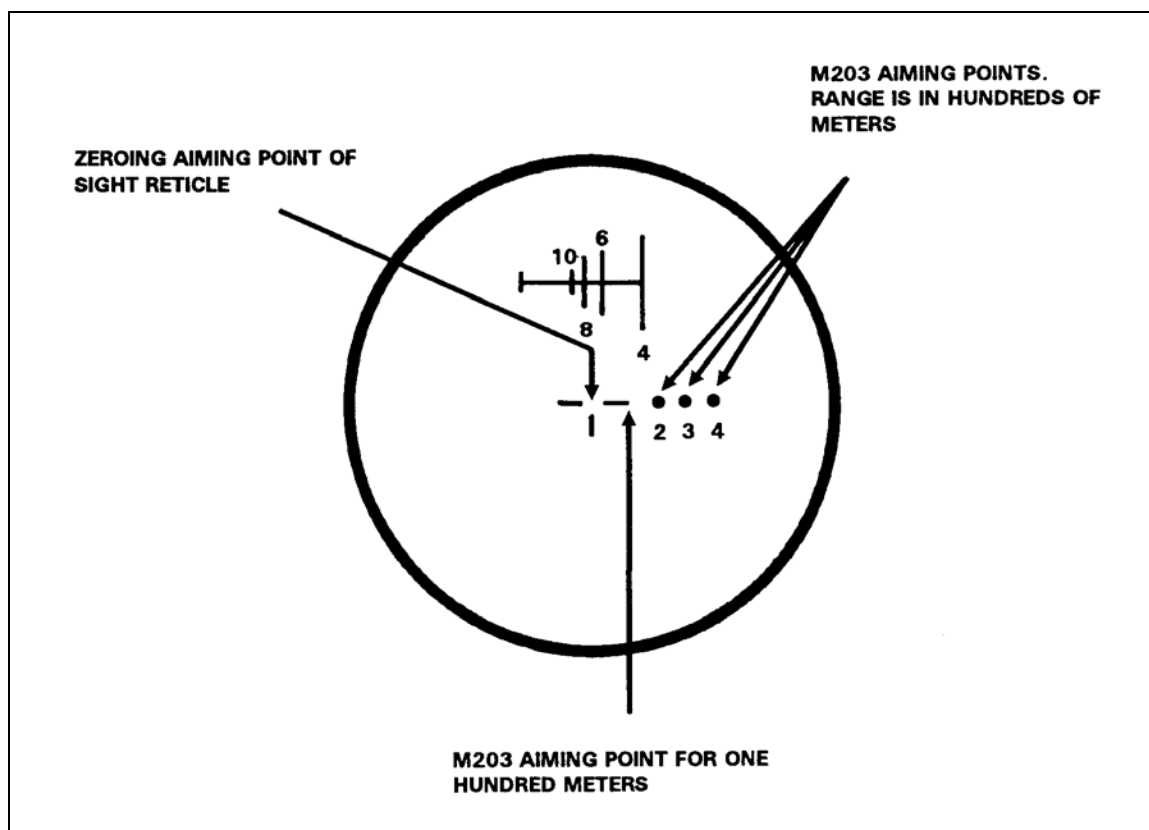

Figure 5-24. Aiming points.
a. **Center the Reticle Pattern.** Use the aiming points on the nightsight reticle (Figure 5-24, page 5-34) and the range settings on the mounting bracket. Center the nightsight's reticle pattern within the field of view (FOV). Note that it may not be centered even if it appears to be. To ensure it is, rotate the azimuth control knob either way until it stops. Then, rotate it back the opposite way, counting the number of clicks until it stops again (this may be any number of clicks between 200 and 600). Divide the number of clicks in half and rotate the knob in the original direction by that number of clicks. For example, if the total number of clicks is 500, rotate the knob back 250 clicks in the original direction. Center the elevation using the same procedure with the elevation control knob. The total amount of elevation clicks also varies between 200 and 600.